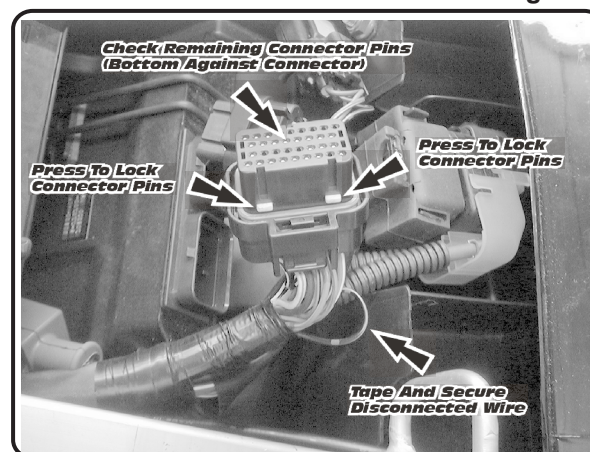

Fig. 11
- 4 Press the protruding two small rectangular white plastic tabs on ECU connector to lock connector pins. (See Fig. 11) The white plastic locking plate should click into place with minimal force when all remaining pins are bottomed against connector.